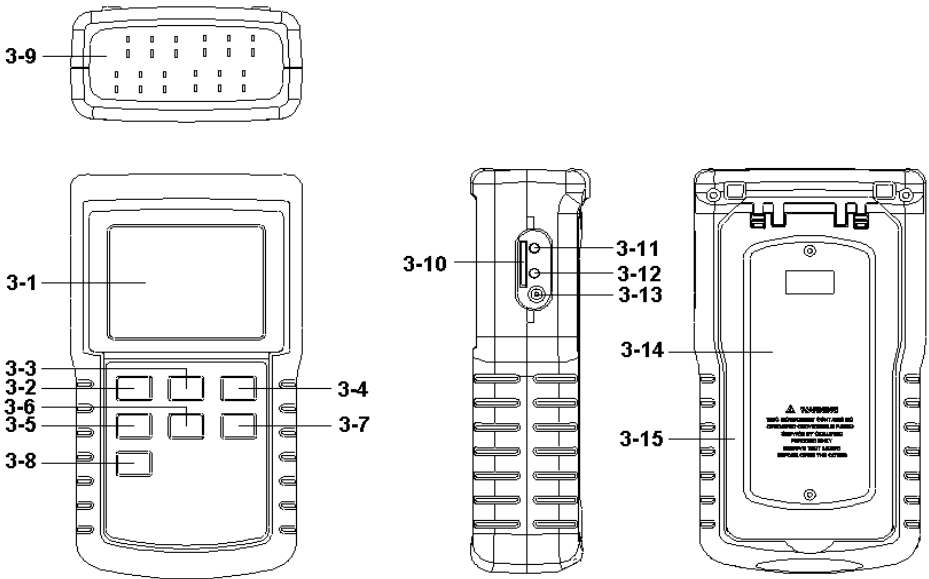

Fig. 1
1) Power on the meter by pressing the " Power button " (3-2, Fig. 1) once.
3) Insert the Type K probes into the " T1, to T12 input socket " (3-9, Fig. 1).
If intend to show the other 4 channels (CH9, CH10, CH11, CH12) temperature value, just press the " Page Button " (3-6, Fig. 1) once , the Display will show those channels' Temp. value following, press the " Page Button " (3-6, Fig. 1) once again, the Display will revert to the 8 channels (CH1, CH2, CH3, CH4, CH6, CH7, CH8) screen.
All the measuring procedures are same as the Type K (chapter 4-1), except to select the Temp. Sensor type to " Type J, T, R, S " by pressing the " Type Button " (3-5, Fig. 1) once in sequence until the up LCD display show the " J, K,T, E, R, S " indicator.
During the measurement, press the " Hold Button " (3-3, Fig. 1) once will hold the measured value & the LCD will display a " HOLD " symbol.
- 1) The data record function records the maximum and minimum readings. Press the " REC Button " (3-4, Fig. 1) once to start the Data Record function and there will be a " REC " symbol on the Display.
- a) Press the " REC Button " (3-4, Fig. 1) once, the " REC MAX " symbol along with the maximum value will appear on the Display.
If intend to delete the maximum value, just press the " Hold Button " (3-3, Fig. 1) once, the Display will show the " REC " symbol only & execute the memory function continuously.
- b) Press the " REC Button " (3-4, Fig. 1) again, the " REC MIN " symbol along with the minimum value will appear on the Display.
If intend to delete the minimum value, just press the " Hold Button " (3-3, Fig. 1) once, the Display will show the " REC " symbol only & execute the memory function continuously.
After power ON, the " LCD Backlight " will light automatically. During the measurement, press the " Backlight Button " (3-2, Fig. 1) once will turn OFF the " LCD Backlight ".
insert the SD card into the " SD card socket " (3-10, Fig. 1).
Press the " REC Button (3-4, Fig. 1) once , the LCD will show the text " REC ", then press the " Logger Button " (3-7, Fig. 1), the " REC " will flashing and beeper will sound, at the same time the measuring data along the time information will be saved into the memory circuit.
During execute the Datalogger function , if press the " Logger Button " (3-7, Fig. 1) once will pause the Datalogger function (stop to save the measuring data into the memory circuit temporarily). In the same time the text of " REC " will stop flashing.
If press the " Logger Button " (3-7, Fig. 1) once again will execute the Datalogger again, the text of " REC " will flashing .
During pause the Datalogger, press the " REC Button " (3-4, Fig. 1) continuously at least two seconds, the " REC " indicator will be disappeared and finish the Datalogger.
Press the " REC Button (3-4, Fig. 1) once , the LCD will show the text " REC ", then press the " Logger Button " (3-7, Fig. 1) once, the " REC " will flashing once and Beeper will sound once, at the same time the measuring data along the time information and the Position no. will be saved into the memory circuit.
- * During execute the Manual Datalogger, press the " ▲ Button " (3-5, Fig. 1) once will enter the " Position /Location no. setting. use the " ▲ Button " or " ▼ Button " (3-6, Fig. 1) to select the measuring location no. (1 to 99, for example room 1 to room 99) to identify the measurement location. After the position no. is selected, press the " Enter Button " (3-4, Fig. 1) once will save the Position/Location no. automatically.*
Press the " REC Button " (3-4, Fig. 1) continuously at least two seconds, the " REC " indication will be disappeared and finish the Datalogger.
During the normal measurement (not execute the Datalogger), If press " Time check Button " (3-8, Fig. 1) once , the left lower LCD display will present the time information of Year/Month, Date/Hour, Minute/Second in sequence.
During the normal measurement (not execute the Datalogger), If press " Sampling time check Button " (3-7, Fig. 1) once , the left lower LCD display will present the Sampling time information in second unit.